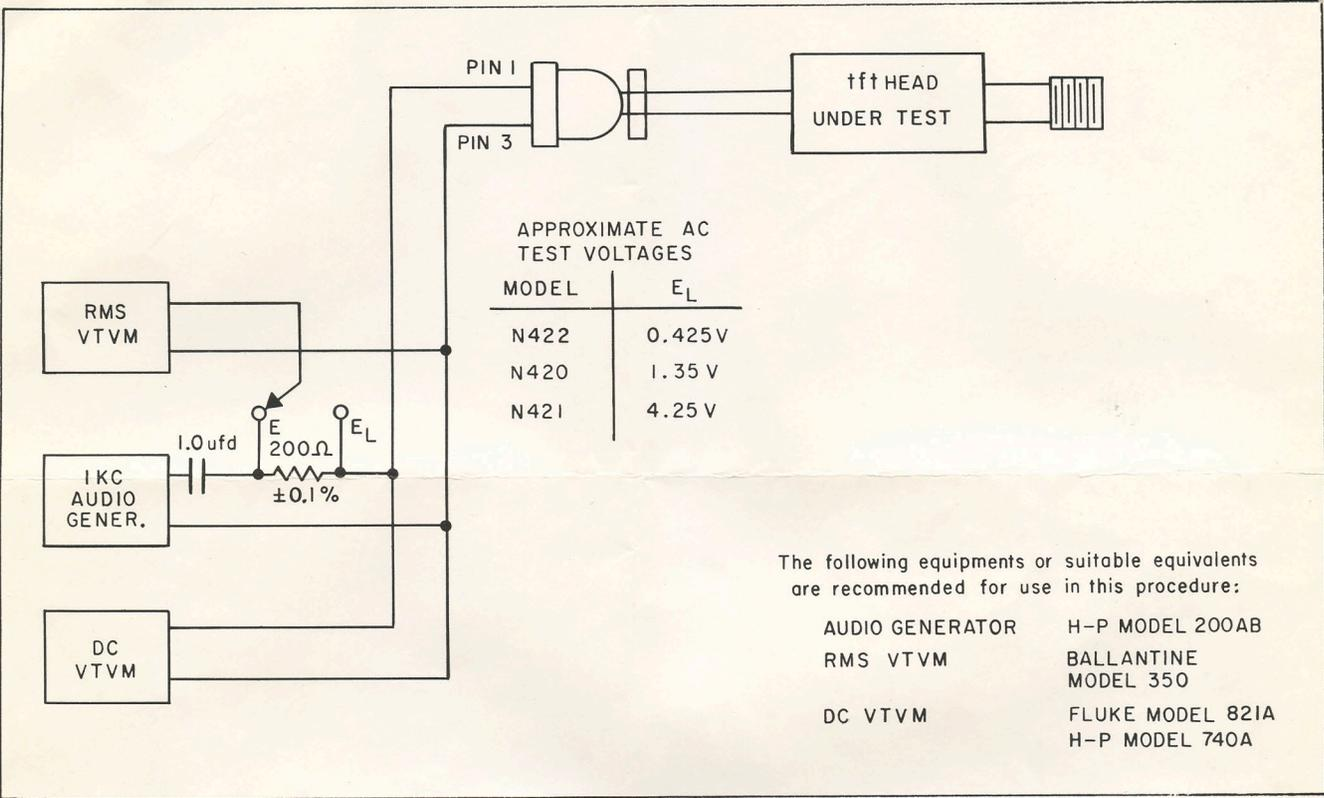

Figure 2. Test Set-Up for Audio Calibration.
1. Connect the tft Power Head as shown in fig. 2. Be sure to observe proper ground connections to avoid spurious ground loops. To check for this, prior to connecting the tft Power Head observe the d-c voltmeter as the a-c generator output is varied. There should be no reading under these conditions. Disconnect the d-c voltmeter and observe that there is no change in the a-c voltmeter reading.
2. Adjust the output of the 1 KC generator to the voltage indicated (approximately 10% below the maximum rated power of the head). Measure the rms audio input voltages (E and E_L) and the d-c output voltage (E_{DC}) and compute the sensitivity (S) as follows: